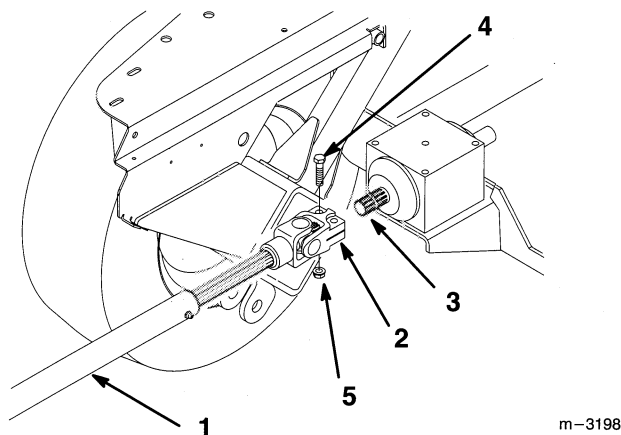

Figure 13
8. Remove (2) 3/8"-16 x 1-5/8" (41.5 mm) bolts and 3/8"-16 locknuts from universal joint and slide the driveshaft off gearbox shaft (Fig. 13).